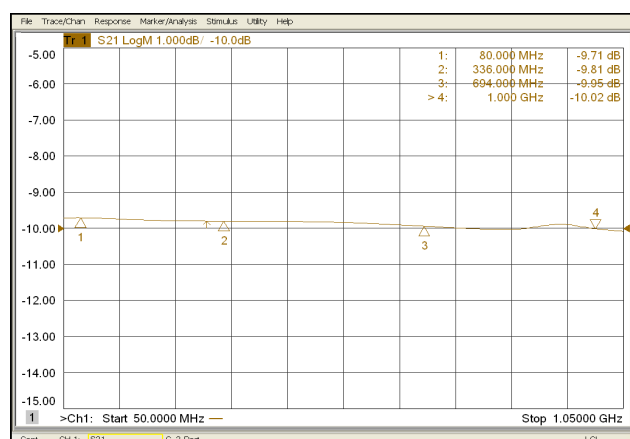

Figure 4-6. Typical Eight-Way Combiner Insertion Loss
6. A typical 8-Way Combiner Insertion Loss and Combined Port Return Loss is shown in Figures 4-6 and 4-7. The unused ports must be terminated when checking the Insertion Loss.